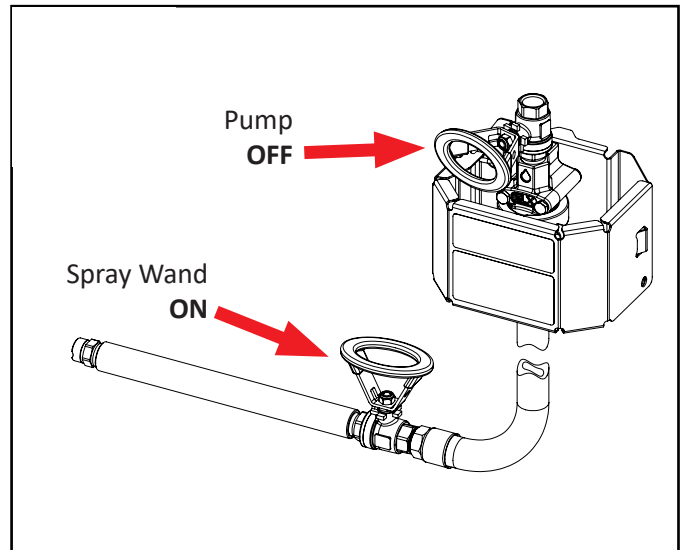

Fig. 6.1: Ball valve positions for start up
1. Ensure unit is properly connected and the pump supply valve is closed [Fig.6.1]